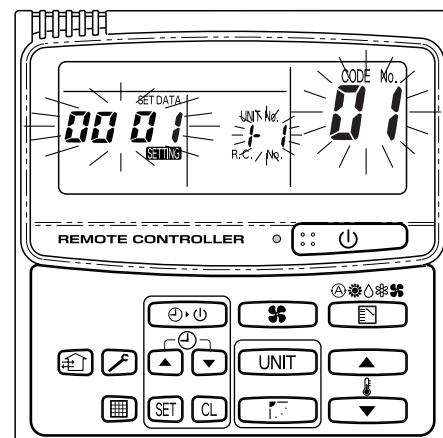

Fig. IV-13
### (I) Change the period of the filter timer (Ref. Fig. IV-13)